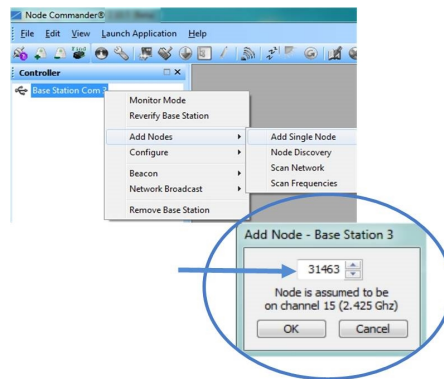

Figure 6 - Adding a Node by Address
1. To add a node by address, right-click on the gateway name in the Controller window, and select Add Node > Add Single Node (*Figure 6 - Adding a Node by Address*).